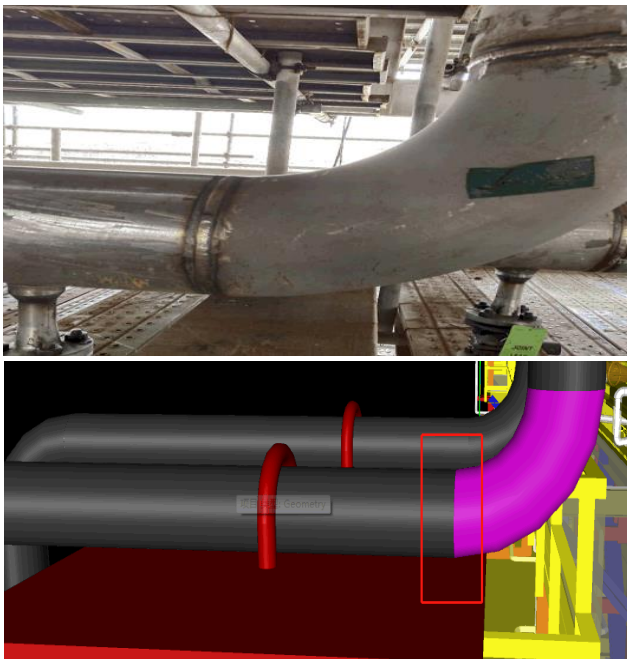

Fig. 4. Fitting the weld joints on the steel beam creates challenges for welding and NDE
- Proximity to structures:** Welds placed too close to walls, beams, or other obstructions limit welder maneuverability and machine accessibility. (Fig. 4)